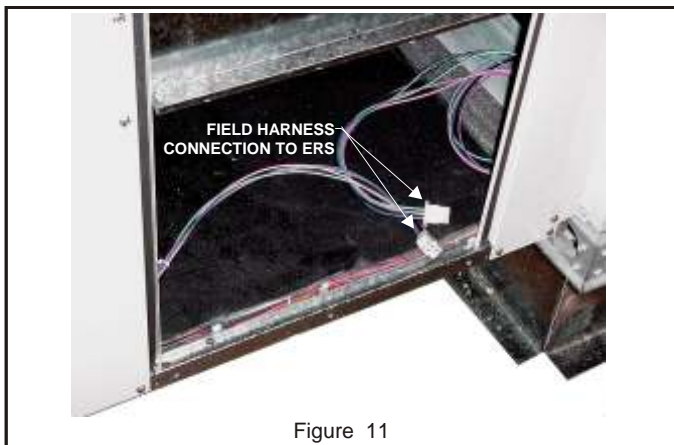
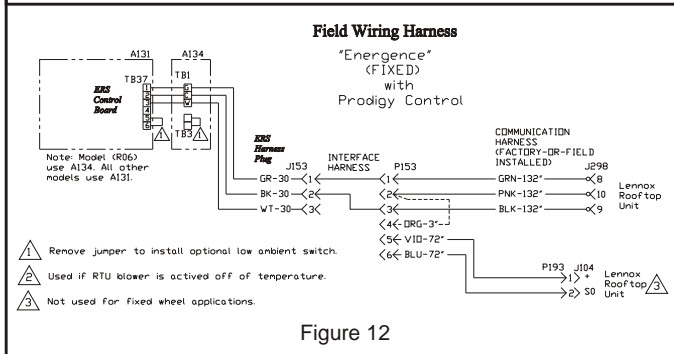

Figure 11
Figure 12
10. Remove the control access panel and locate the 3-pin connector P153 wiring harness that was previously routed into the return air of the rooftop unit. Plug the harness connector P153 into the connector J153 located at the bottom of the access door inside the ERS. See **Figure 11** and **Figure 12**.